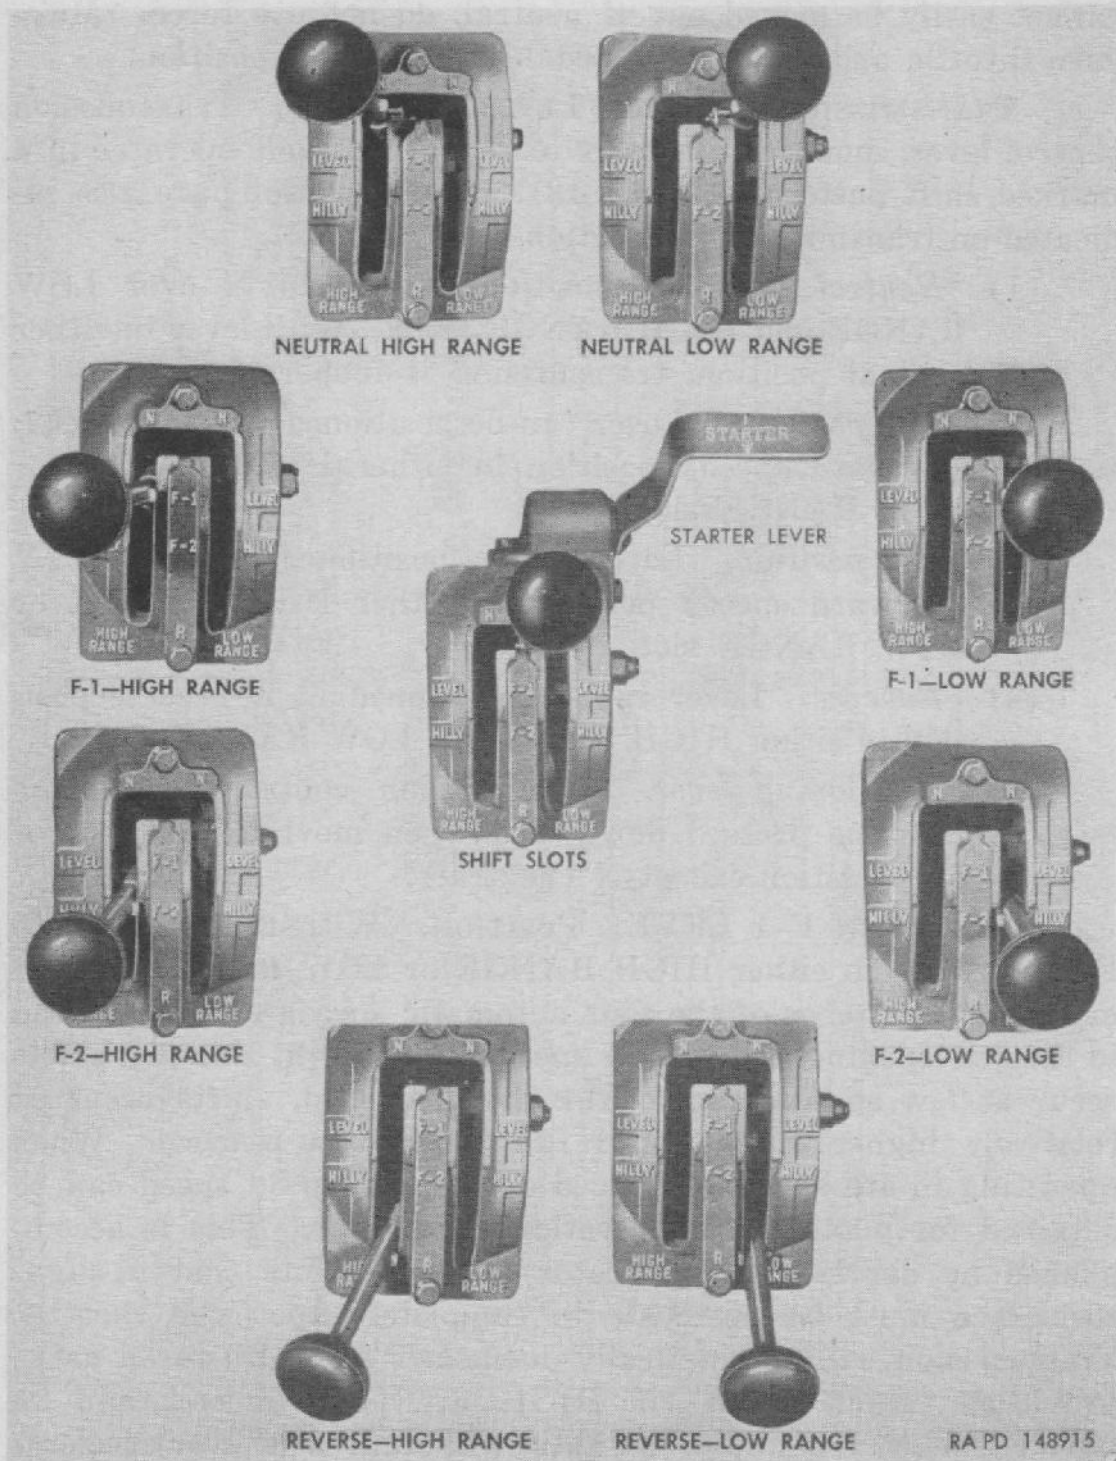

Figure 13. Transmission control lever positions.
c. **TRANSMISSION CONTROL LEVER POSITIONS.** Transmission control lever, mounted on tower to right of driver, operates in a marked shift pattern slot (fig. 13). Shift positions are also indicated on transmission instruction plate (fig. 12).
- (1) *Neutral.* Neutral position is marked N over LOW RANGE and HIGH RANGE slots. With lever in either neutral position, transmission is inoperative.
- (2) *F-1 position.* Lever can be positioned in F-1 LEVEL (forward speed) position in either HIGH RANGE or LOW RANGE slot.
- (3) *F-2 position.* Lever can be positioned in F-2 HILLY (forward speed) position in either HIGH RANGE or LOW RANGE slot.
- (4) *Reverse.* Lever can be positioned in R reverse position in either HIGH RANGE or LOW RANGE slot.
- (5) *Positioning lever.* Transmission control lever knob must be pressed downward when moving lever out of any position except N (neutral).
- (1) Raise transfer lever to UP-ENGAGED position.
- (2) Place transmission control lever into N HIGH RANGE (fig. 13).
- (3) Use choke, throttle, and primer pump as described for normal starting of engine (par. 37*a*).
- (4) Turn ignition switch to ON position. When a vehicle speed of 10-12 mph is reached, move transmission control lever into F-1 HIGH RANGE position (fig. 13).